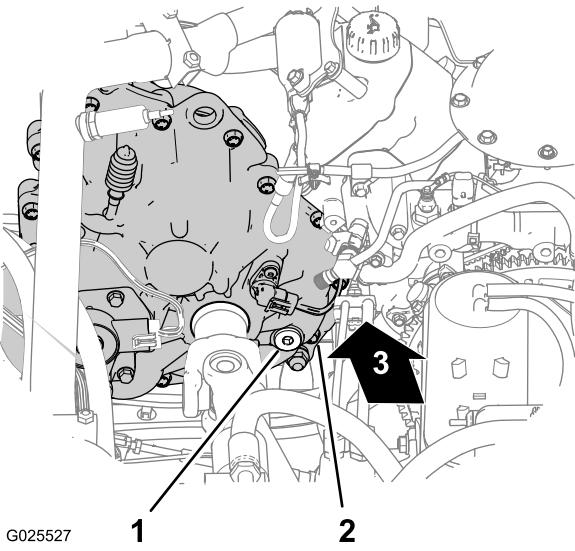
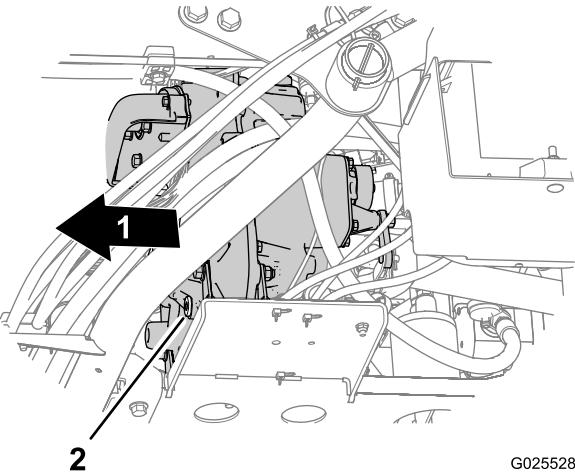

Figure 58
Figure 59
2. Locate the fill plug at the back inboard area of the transmission case and the locate the drain plug at the front outboard side of the transmission (Figure 58 and Figure 59).
3. Remove the fill plug from the fill port by rotating the plug counterclockwise and removing it from the transmission (Figure 58).
4. Align a drain pan below the drain plug (Figure 59).
- Remove the drain plug from the drain port by rotating the plug counterclockwise and removing it from the transmission (Figure 59).
- Install the drain plug (Figure 59).
- Add 700 ml (23.7 fl oz) of Dexron VI transmission fluid into the transmission through the fill port (Figure 58).
- Install the fill plug (Figure 58).